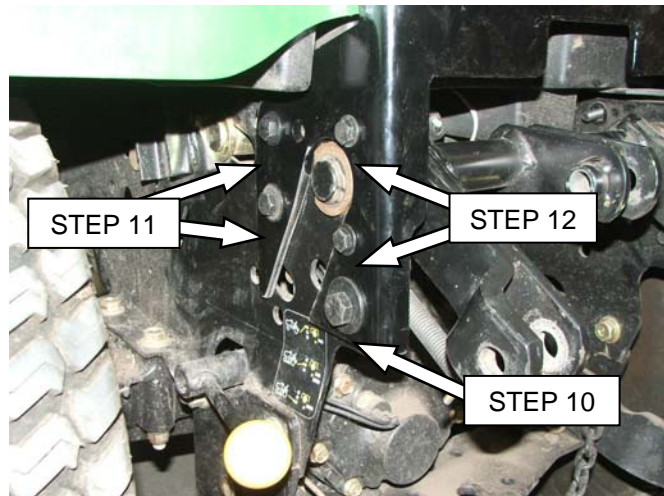

Figure 6
- 10) Use a 1/2 x 1.25" bolt with 1/2" flat washer and 1/2" nylock nut on the lower hole on each side of the mount. See figure 6. **DO NOT TIGHTEN UNTIL ALL HARDWARE IS INSTALLED.**
- 11) Use (2) 3/8 x 1" bolts with 5/16" flat washers and 3/8" serrated flange nuts on the (2) front holes on each side of the mount. See figure 6.
- 12) Use (2) 5/16 x 1" bolts with 5/16" flat washers and 5/16" serrated flange nuts on the (2) rear holes on each side of the mount. See figure 6.